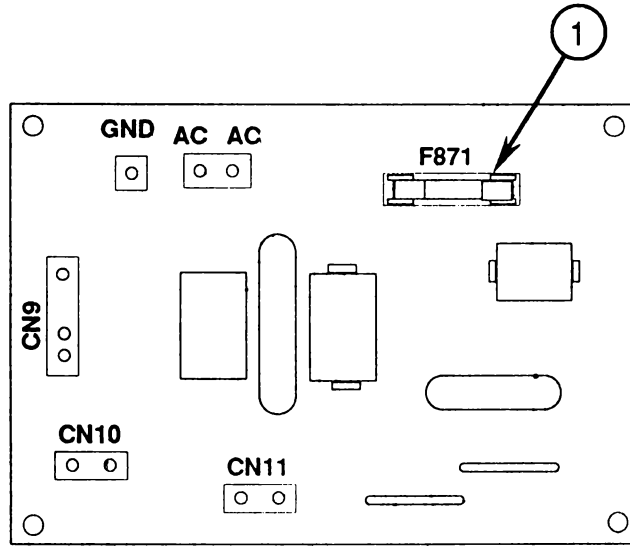

FIGURE 41
4. Locate fuse F871 (Figure 41, #1) on the component side of the power supply board.